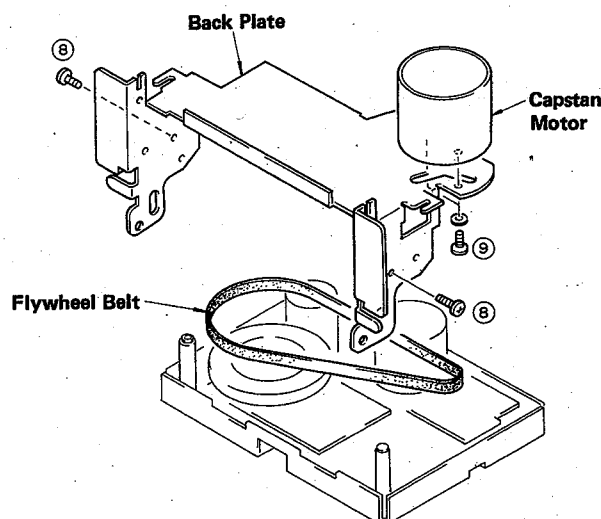

Fig. 4
- a. Remove 2 screws (⑧) in Fig. 4 and then remove the back plate.
b. Remove 2 screws (⑨) in Fig. 4 and then remove the Capstan Motor.